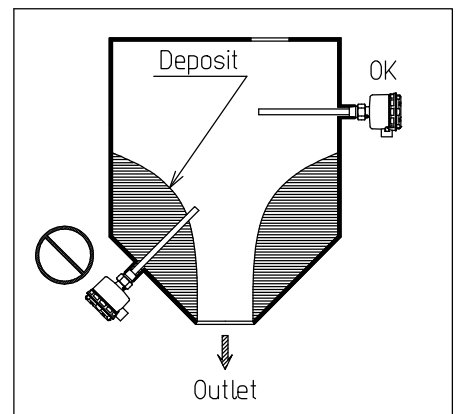

Fig. 5-4
- (3) Avoid areas susceptible to deposit* to prevent faulty operation. (Fig. 5-4)